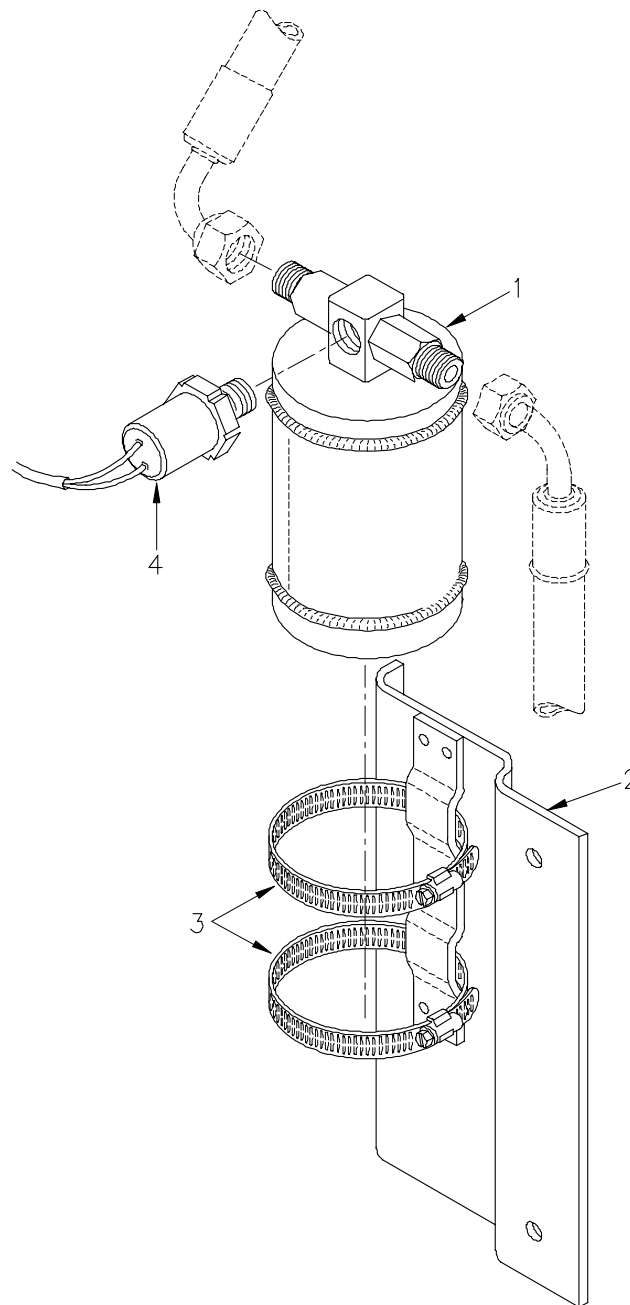

Figure 27 Receiver Dryer and Mounting
57. **Removal.** To remove the dryer from the vehicle, proceed as follows (refer to Figure 27):